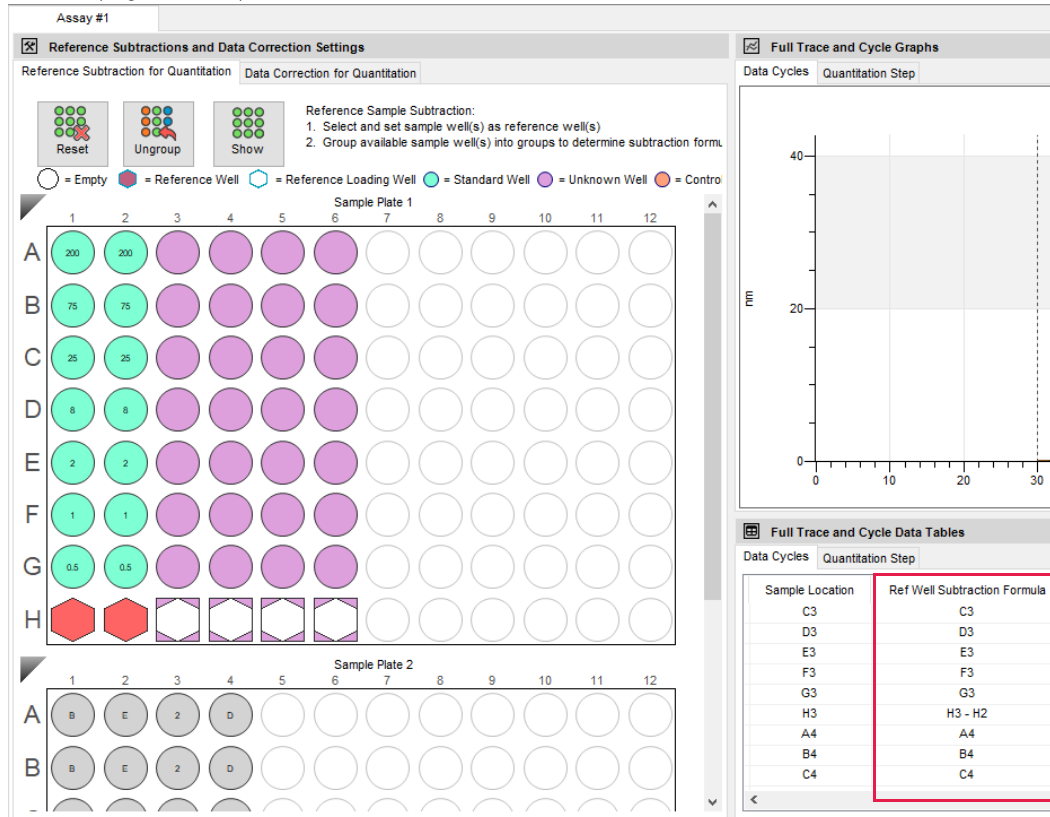

Figure 9-23: Subtract Reference In Row Plate View and Data Cycles Table Subtraction Formula
- **In Row** - If a row includes both non-reference and reference wells, the software computes the average reference curve for the row and subtracts this curve from the non-reference wells in the same row. (Figure 9-23).